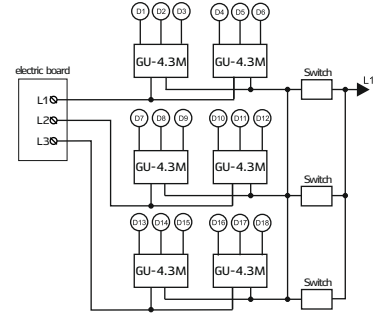

Fig. 4 – Connecting the GU-4.3M to different phases of the supply network
2. connect the formed groups to different phases of the power supply network (see Fig. 4).